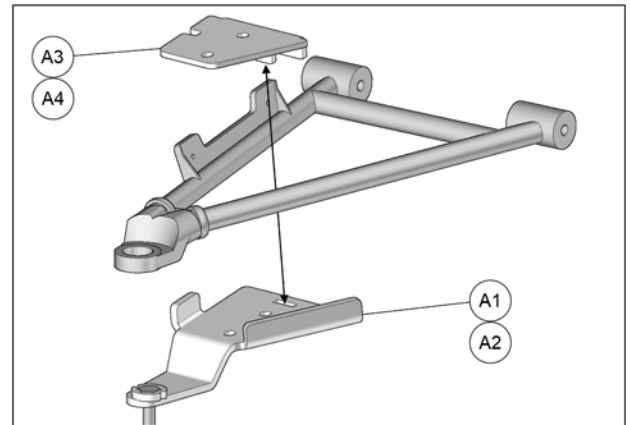

Fig. 15
5. Position bottom part of anchor bracket (A1-A2) under lower suspension arm. Position top part (A3-A4) over suspension arm and insert tenon in mortise cut in bottom part. See Fig. 15